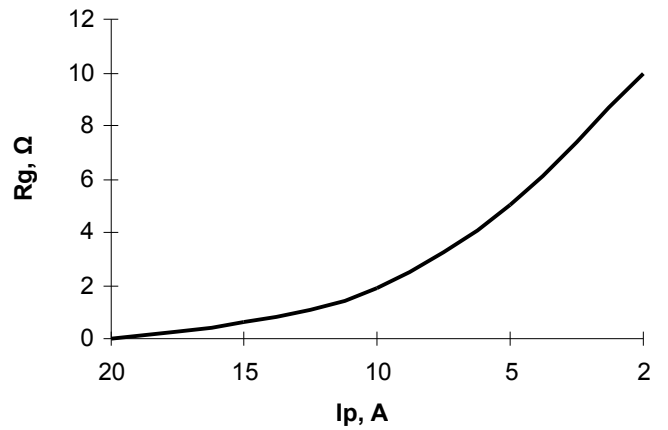

Figure 8 – Output pulse current versus gate resistor nominal
| Maximum output pulse on current   | $I_{Omax\ on}$       | A           | +18 | 20   |      | Set by consumer; ref. to Figure 8 |
Gate resistors (Ron1, Ron2, Roff1 and Roff2) are necessary for maximum pulse current decrease. Resistor installing with any nominal is allowed, including 0  $\Omega$ . Resistor installing with different nominal is also allowed; for instance, in order to increase turn-on time of controlled transistor purposely to decrease voltage amplitude of inductive kicks. Output pulse current versus gate resistor nominal is shown at Figure 8.
- set up output pulse current by resistor Rg on(off) in compliance with Figure 8.